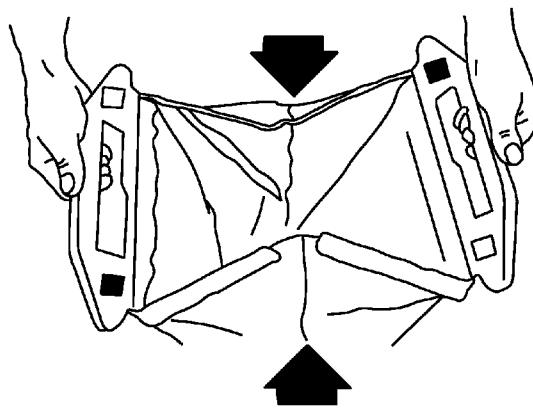

**Figure 40**
9. Check clearance between blade tips and chute baffle making sure there is no contact (Fig. 40).
**Note:** The chute baffle must go behind the front deck baffle and between blade and toe guard to prevent contact with blade (Fig. 40).